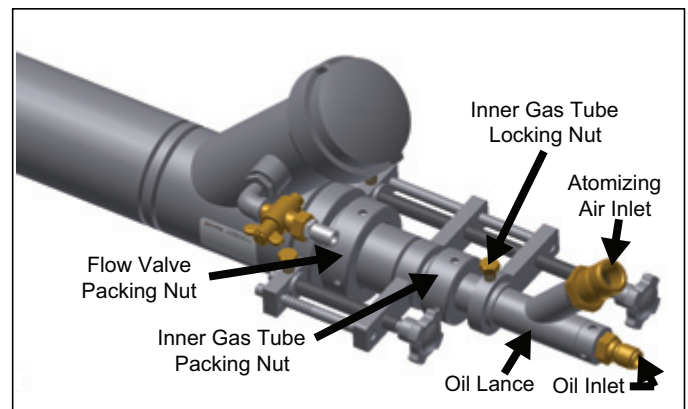

Figure 4.2.
4. Install the oil/atomizing assembly and secure the packing gland and inner gas tube locking nut. (Refer to Figure 4.2 in the Maintenance Section.)